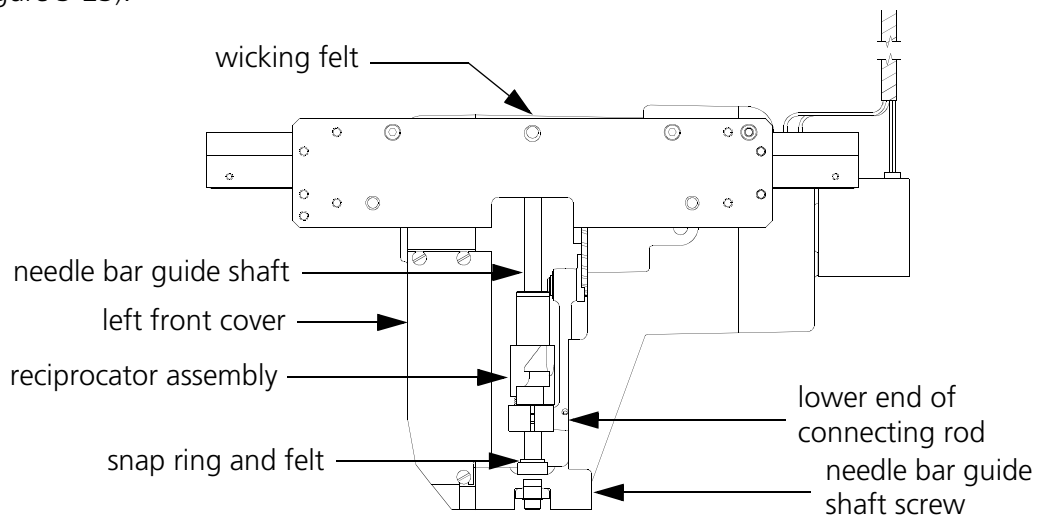

Figure 3-23
2. On the lower right side of the head, loosen the screw holding the needle bar guide shaft (see Figure 3-23).
3. Refer to Figure 3-23 to locate the wicking felt on top of the head and remove it. Be careful not to damage the felt.